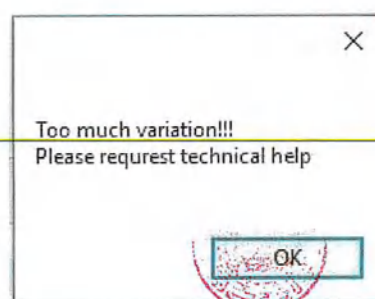

Figure 67
9.5.7.15 If the volume is out of the allowable range, a technical assistance message will be shown below [Figure 67].